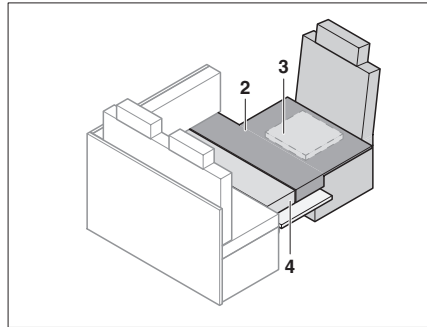

Fig. 116 After conversion
- Place additional cushion (Fig. 116).